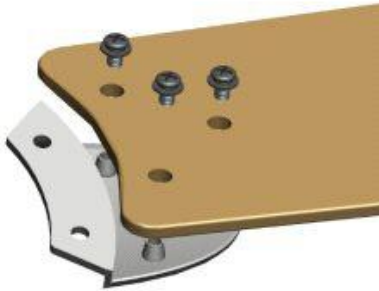

Fig 3.1
3.1 Locate 15 blade attachment screws in the hardware pack. Secure each blade to the blade bracket using blade screws as shown in Fig 3.1.